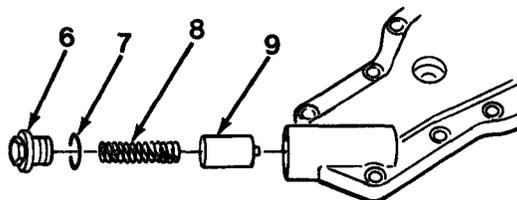

Figure 6-3
1. Install pressure regulator plunger (9), spring (8), sealing washer (7) and plug (6, Figure 6-3). Torque plug (6) to 74 lb-ft (100 N•m).